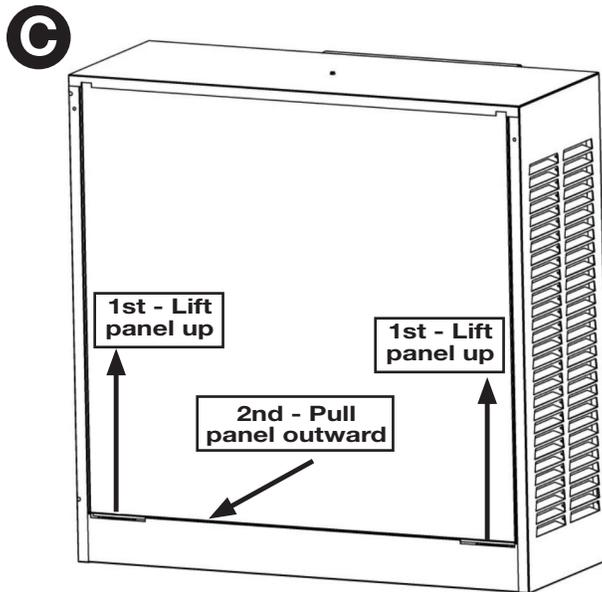

Fig. 4 - Back Panel Removal
- D. Remove back panel (Fig. 4).